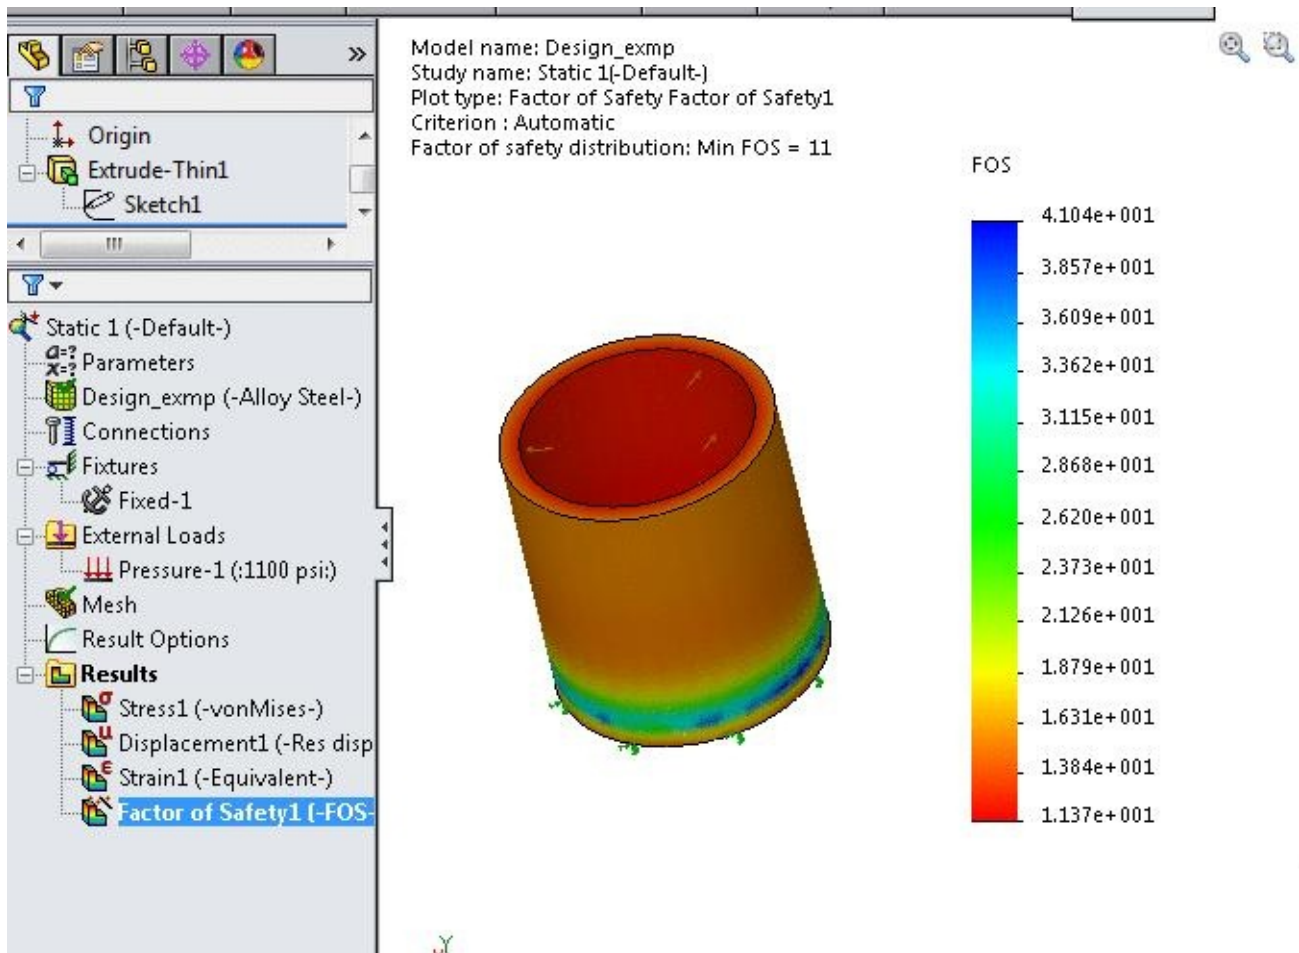

Figure-11. Factor of safety of example
- Open the model on which you have performed the relevant analysis. In this example, we have performed a static analysis and we have found the results as given in Figure-11.